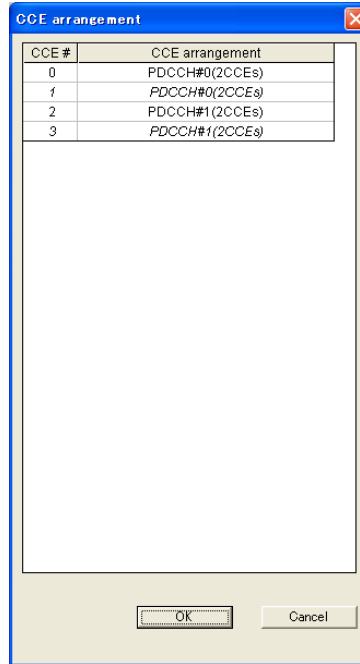

Figure 3.3.1.1-1 CCE arrangement setting
10. Double-click the **CCE arrangement** for Subframe #0 in the tree view, and then specify the settings shown in Figure 3.3.1.1-1.